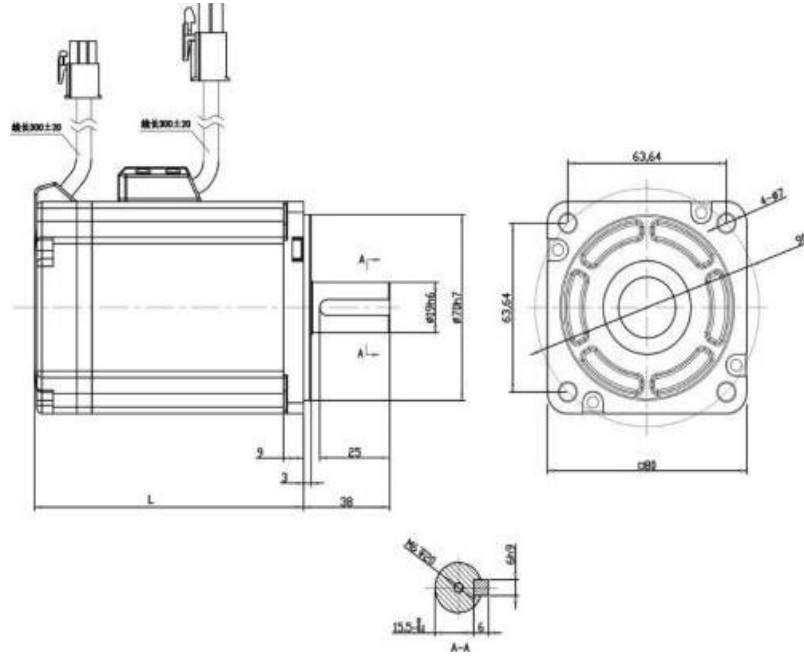

Figure 3.3 80 Motor and Table 3-2
- Installation dimensions of 80 frame motor (see Figure 3.3 and Table 3-2)